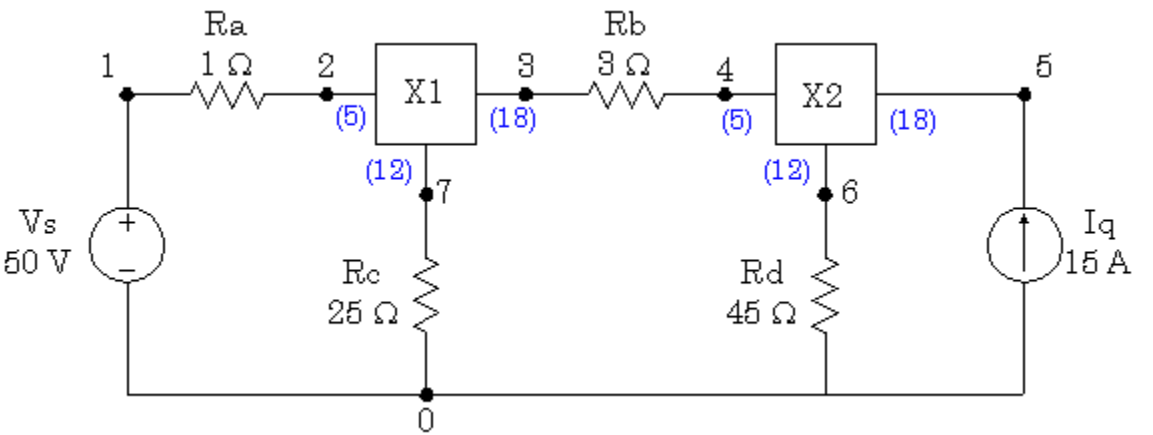

Fig. 2: Circuit using the subcircuit Example\_1
15. Add additional components to create the circuit in Fig. 2.